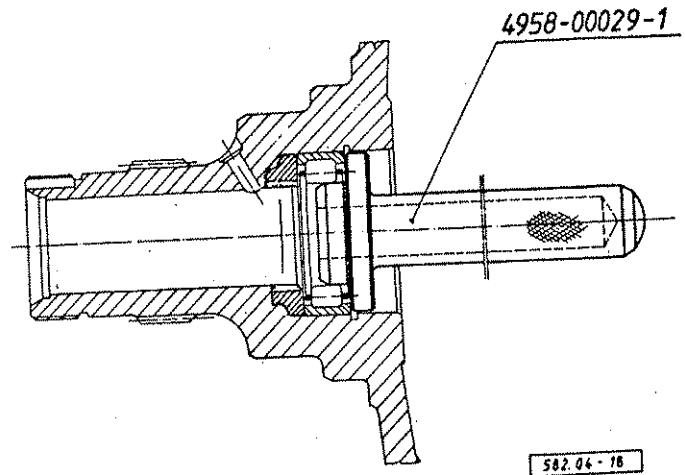

Fig. 3.: DRIVING IN THE CYLINDRIC ROLLER BEARINGS
Place the spacer sleeve (6) in the spindle (35). By means of the tools shown drive in the cylindrical roller bearing (Fig. 3).